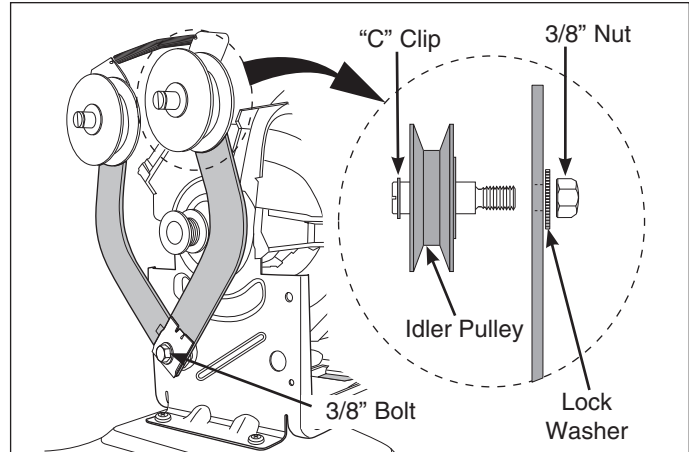

Figure 4-36.
2. Using a 3/8" socket or wrench, remove the bolt securing the belt tensioner to the motor mounting bracket. (See Figure 4-36)